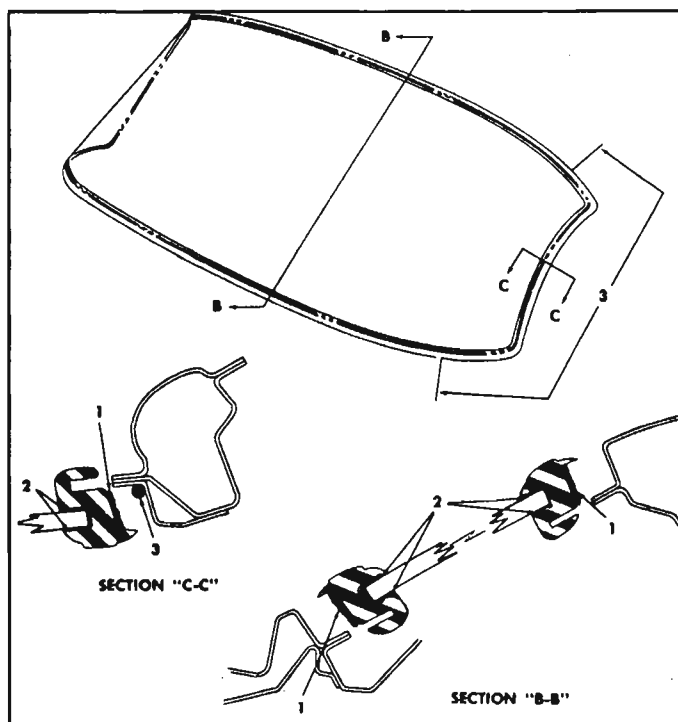

Fig. 10-36—Windshield Sealing
4. Apply a ribbon of medium-bodied sealer completely around base of rubber channel as indicated by "1" (fig. 10-36).
5. Apply a bead of medium-bodied sealer, approximately $\frac{1}{4}$ " in diameter to corner of windshield opening rabbet around each side of windshield for distance indicated by "3" (fig. 10-36).
8. Using a pressure type applicator, seal inner and outer lips of rubber channel ("2," fig. 10-36) to glass with an approved weatherstrip adhesive. Sealer is to extend completely around rubber channel.